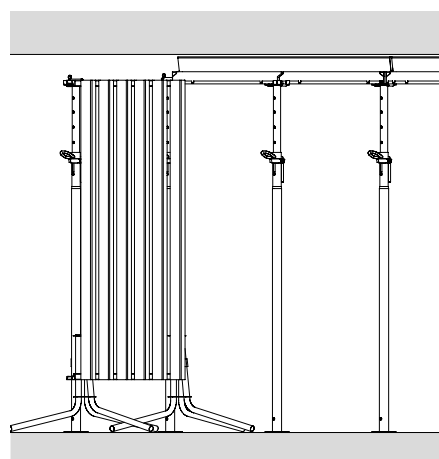

Fig. A10.02
4. Remove formwork panels one by one. (Fig. A10.02)